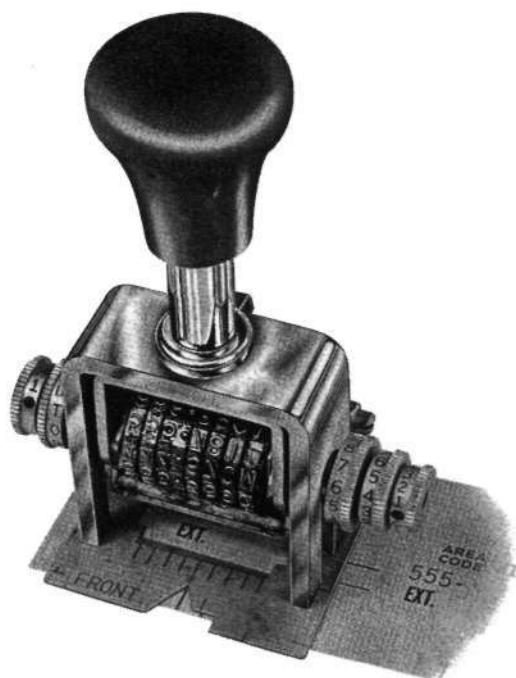

Fig. 9 - Aligning Numbering Machine without Lid (4-Digit Number)
3.05 To print 4-digit extension number, see Fig. 9 for alignment and proceed as in 3.03.